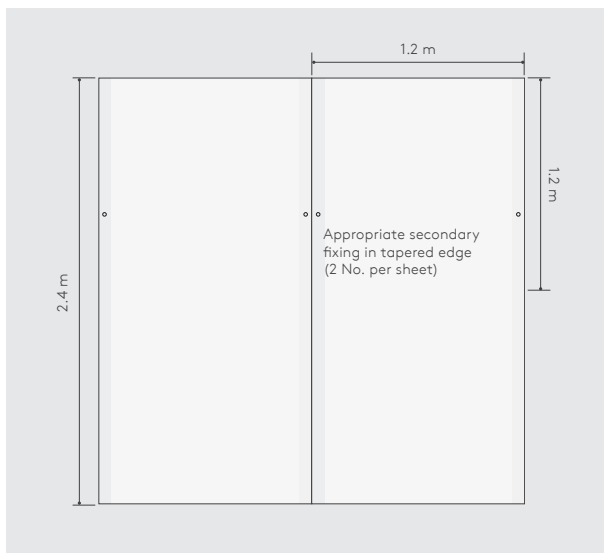

Figure 7: Appropriate secondary fixing pattern for acrylic sealant / PU foam adhesive bonding
Figure 6: Appropriate secondary fixing pattern for drywall adhesive dab bonding using 6 additional fixings (see Figure 7 for the appropriate secondary fixing pattern when using 2 additional fixings)
- These are normally applied at a rate of 2 No. per sheet, 15 mm in from the edge of the sheet, after the adhesive has set (see Figure 7).